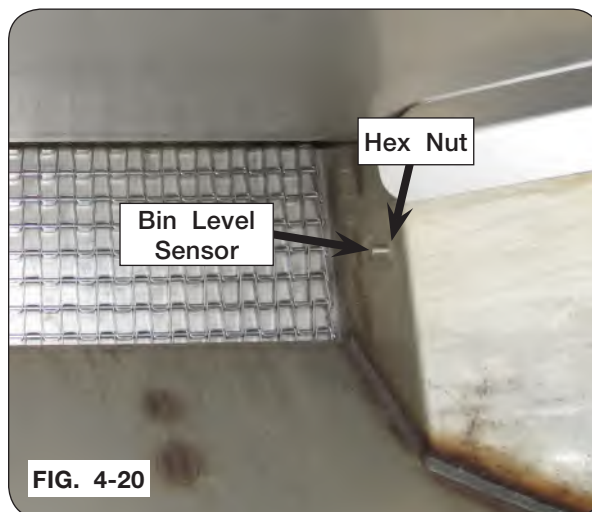

FIG. 4-20
3. Inside the box, insert new bin level sensor (9008806) through the rear hole on the right-hand panel with connector end out of the box. (FIG. 4-20)
4. Attach bin level sensor to the inside of the right-hand panel using one hex nut (9008808). (FIG. 4-20)
3. Disassemble cartridge valve as shown (FIG. 4-20). Clean and inspect all parts thoroughly. Once clean, reassemble cartridge as shown in Figure 4-20.